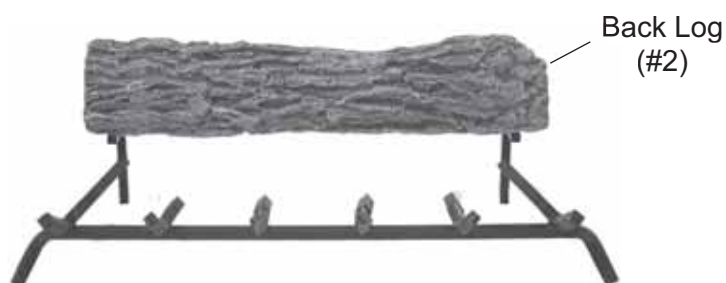

Figure 59 - Placing Back Log (#2) on Grate Bars on Back of Grate.
1. Place Back Log #2 on grate bars on back of grate. *See Figure 59.*